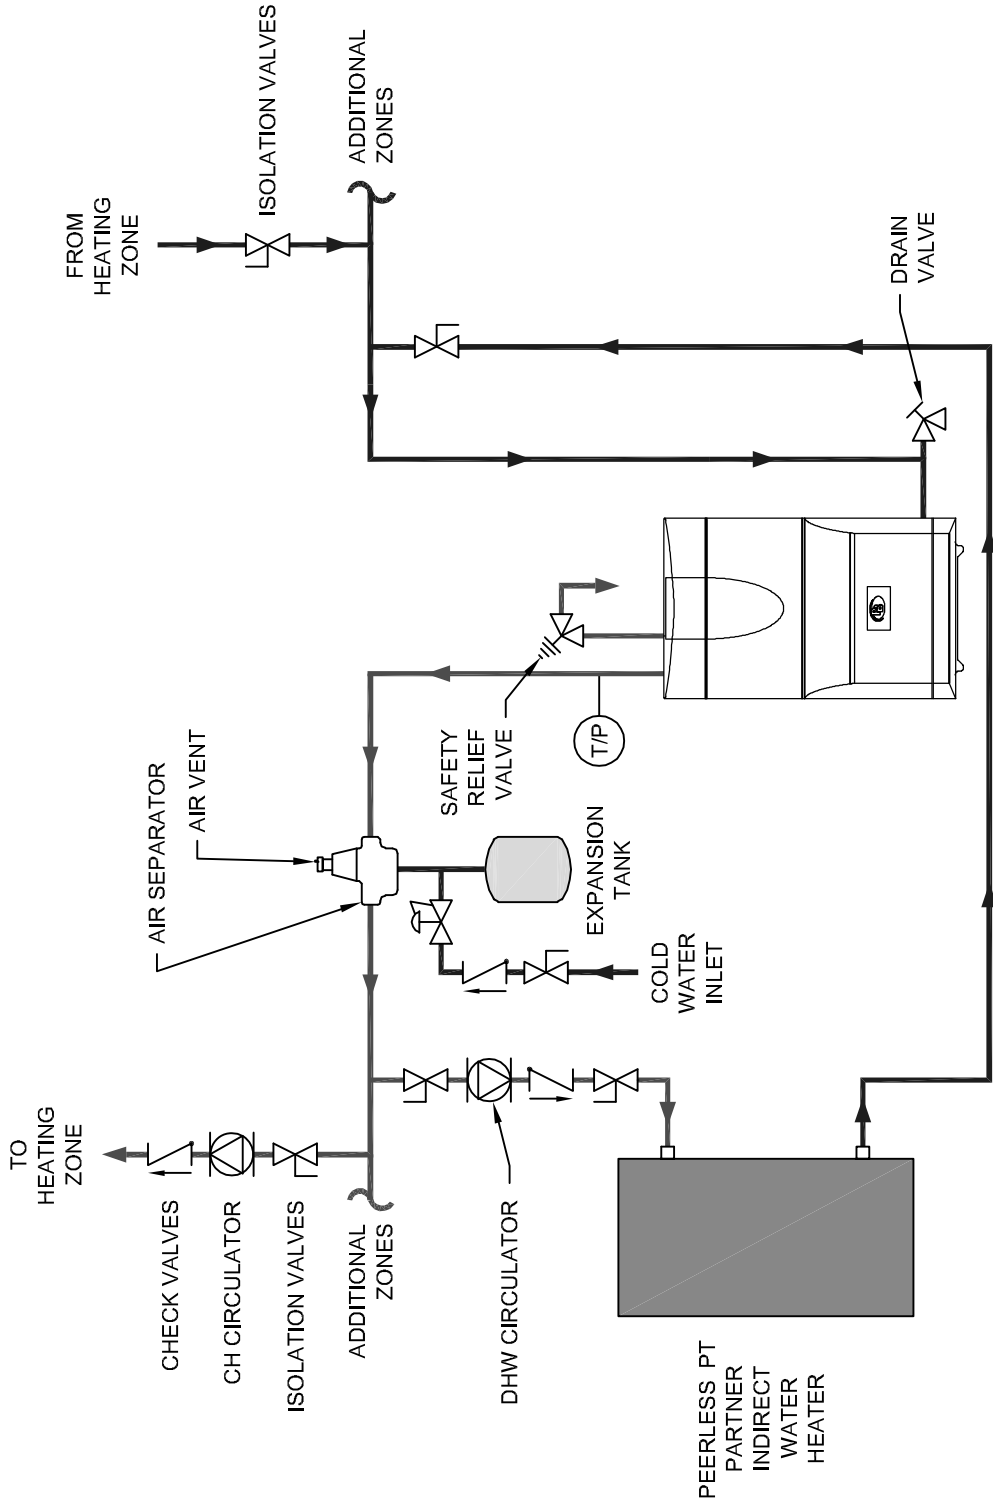

Figure 3.3: Recommended Water Piping
9. *Indirect Water Heater:* An indirect water heater should be piped to a dedicated zone as shown in Figure 3.3.
2. Figure 3.3 shows the recommended piping for the WBV/WV™ boiler.
3. The DHW zone is piped from the primary loop in parallel with the central heating (CH) zones. It should be piped as close to the boiler as possible since it should be the hottest zone.